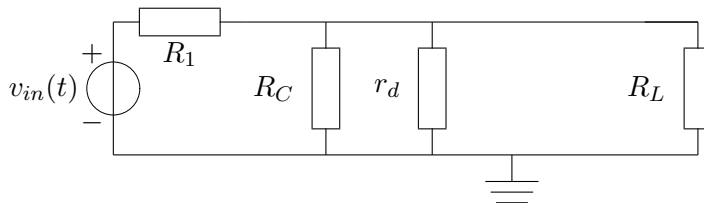

Figure 11: Circuit for the small signal AC analysis near the operating point.
2. Circuit for the small signal AC analysis near the operating point is shown in Fig. 11. In particular, the diode is characterized by the dynamic resistance. Note also that V_C can be replaced by a short circuit in AC analysis because, by definition, there is absolutely no AC voltage across a DC source. The $v_{in}(t)$ represents AC voltage source with small amplitude.